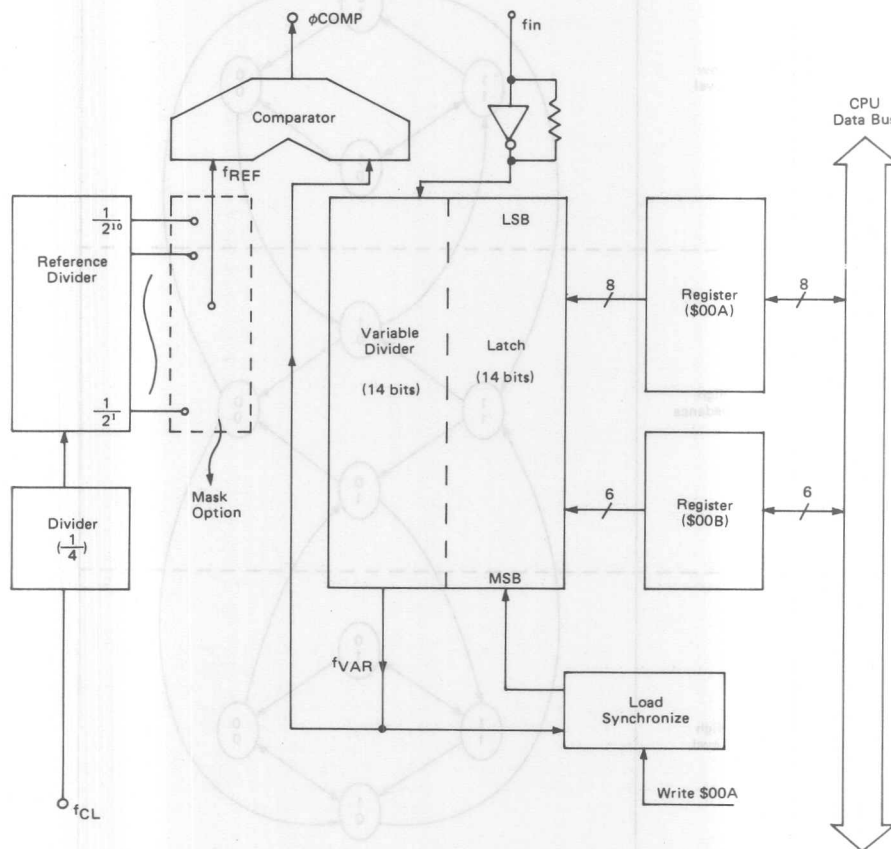

Figure 17 PLL Block Diagram
The variable divider, a 14-bit binary down counter, sends/receives data to/from the CPU through read/write registers which are located at \$00A in the case of the Least Significant (LS) byte and \$00B in that of the Most Significant (MS) byte. "1" is always read from the high-order two bits of the \$00B register. The variable divider counting zero will generate a preset pulse f_{VAR} . Fig. 17 provides a PLL block diagram where the 14-bit latch is reloaded to the variable divider.
A reference frequency, f_{REF} , is made by the 10-phase binary counter and is compared with the variable divider output. This reference divider is mask optional and the user can select any frequency as shown in Fig. 17.